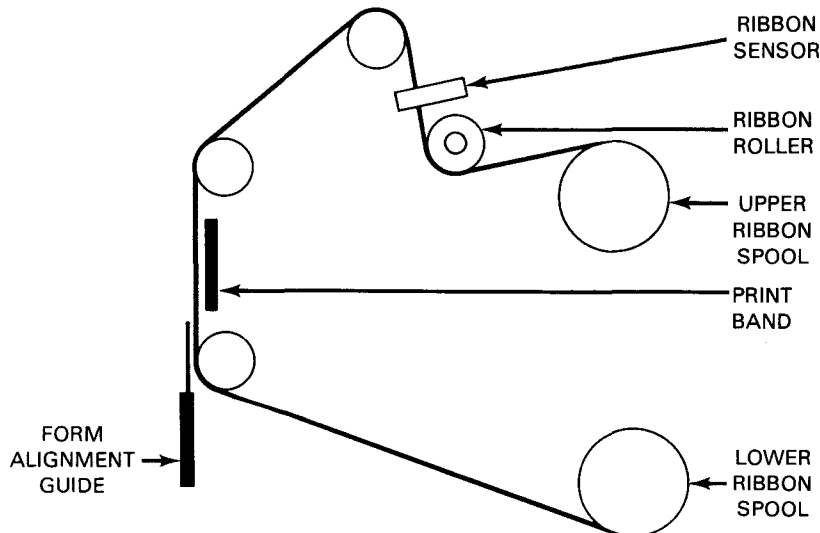

Figure 5—101. Ribbon Threading Path
9. Replace the ribbon roller by fitting one end of the roller to the spring-loaded pin on the carriage latch end of the print carriage (Figure 5—99), then push the ribbon roller to compress the spring, and insert the opposite end of the roller to the pin on the opposite end of the print carriage. The ribbon roller should maintain an even pressure on the print ribbon during operation.